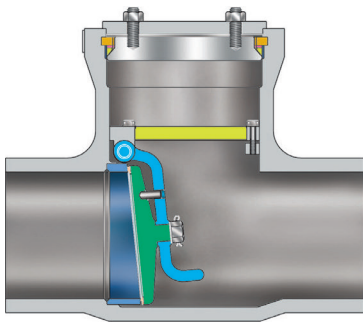

Figure 17
**1. Swing Check** (Figure 17). Pressure seal swing check valves are commonly used in combination with gate-type isolation valves for reverse flow protection. Their relatively higher Cv (vs. piston checks), simple operation, and relative ease of maintenance make